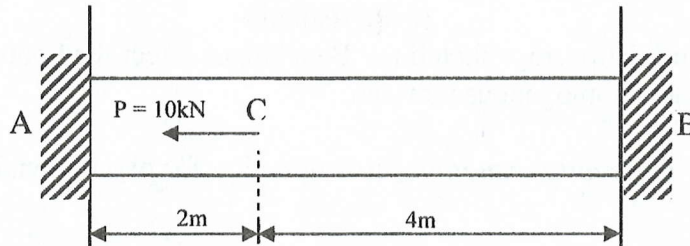

Figure 3.0
- (b) A fixed end bar ACB with cross sectional area A is subjected to an axial force P as shown in Figure 3.0. Assume $A=15\text{cm}^2$, $E=20 \times 10^6 \text{ N/cm}^2$. Determine the displacement at point C.